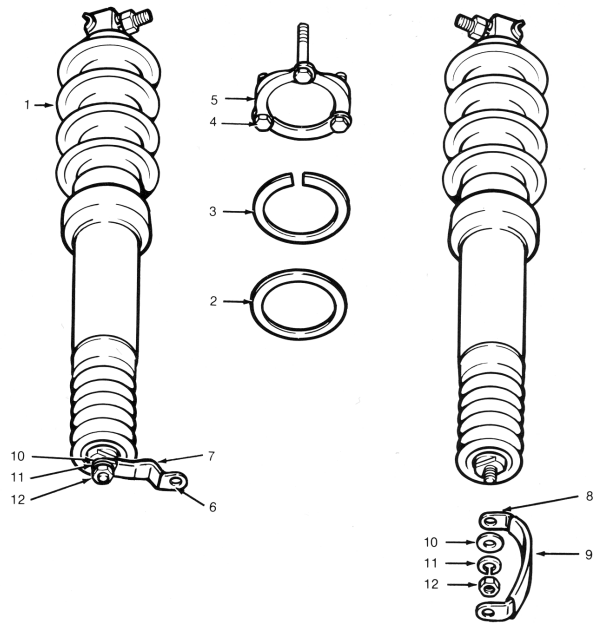

Figure 32. Bushing parts. See table 10 for parts identification
**Table 10. Parts list for bushings (see Figure 32)**